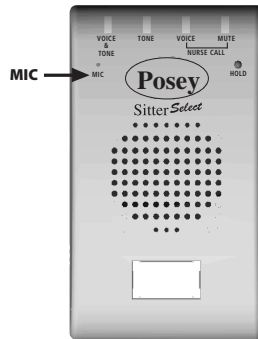

Fig. 10
3. In a normal voice, talk into the microphone aperture labeled “MIC” on the front of the unit (see Fig. 10). Note: The volume adjustment will not change the recording volume. The volume at which you speak and your distance from the aperture determines the message volume. To increase the volume, speak in a louder voice closer to the mic.